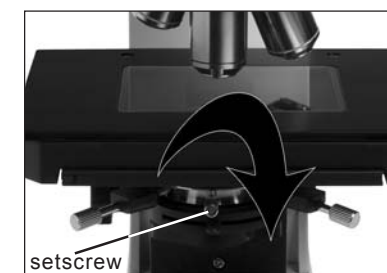

Figure 12
16. Slip the brightfield condenser into the collar from below. The narrow end of the condenser should be facing upward. With the iris control facing forward, and centered properly, tighten the condenser set knob (figure 12).